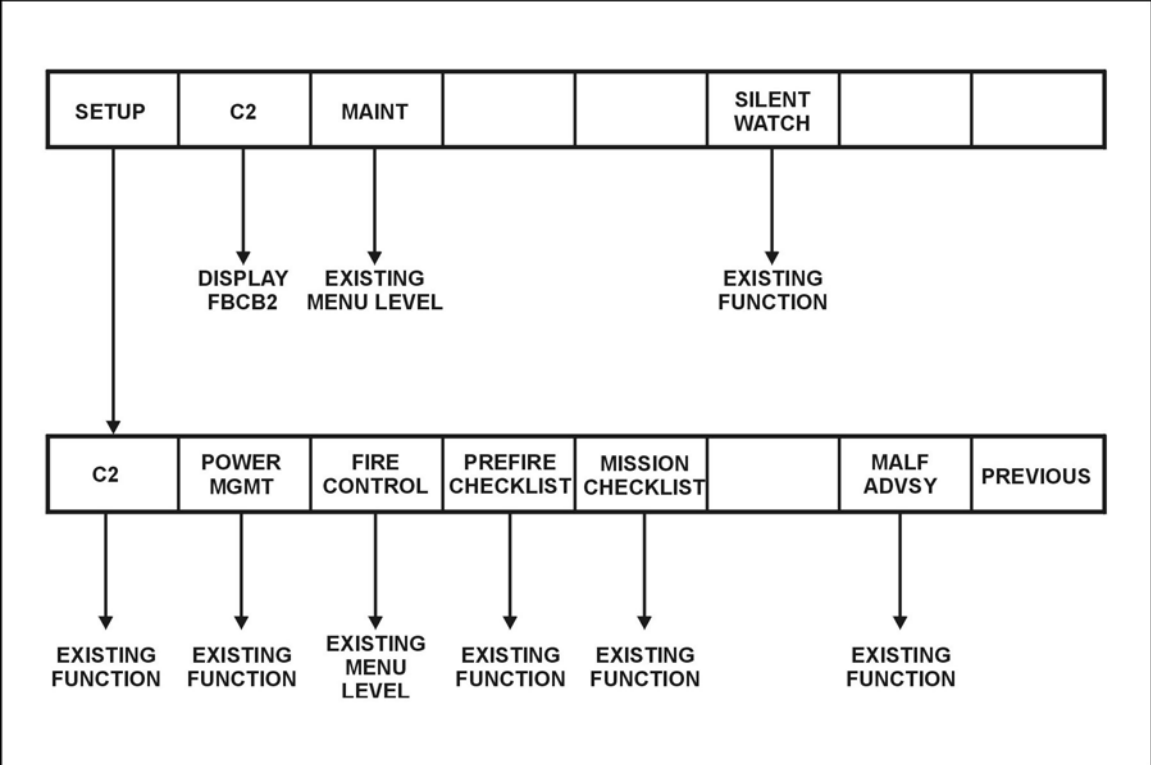

Figure 6. CTD menu structure.
3. Select the desired function on the CTD (Figure 6).
- (6) Select fire control function (Refer to Figure 6).
- (h) Select manual boresight by pressing the MANUAL BORESIGHT softkey (Refer to Figure 6).